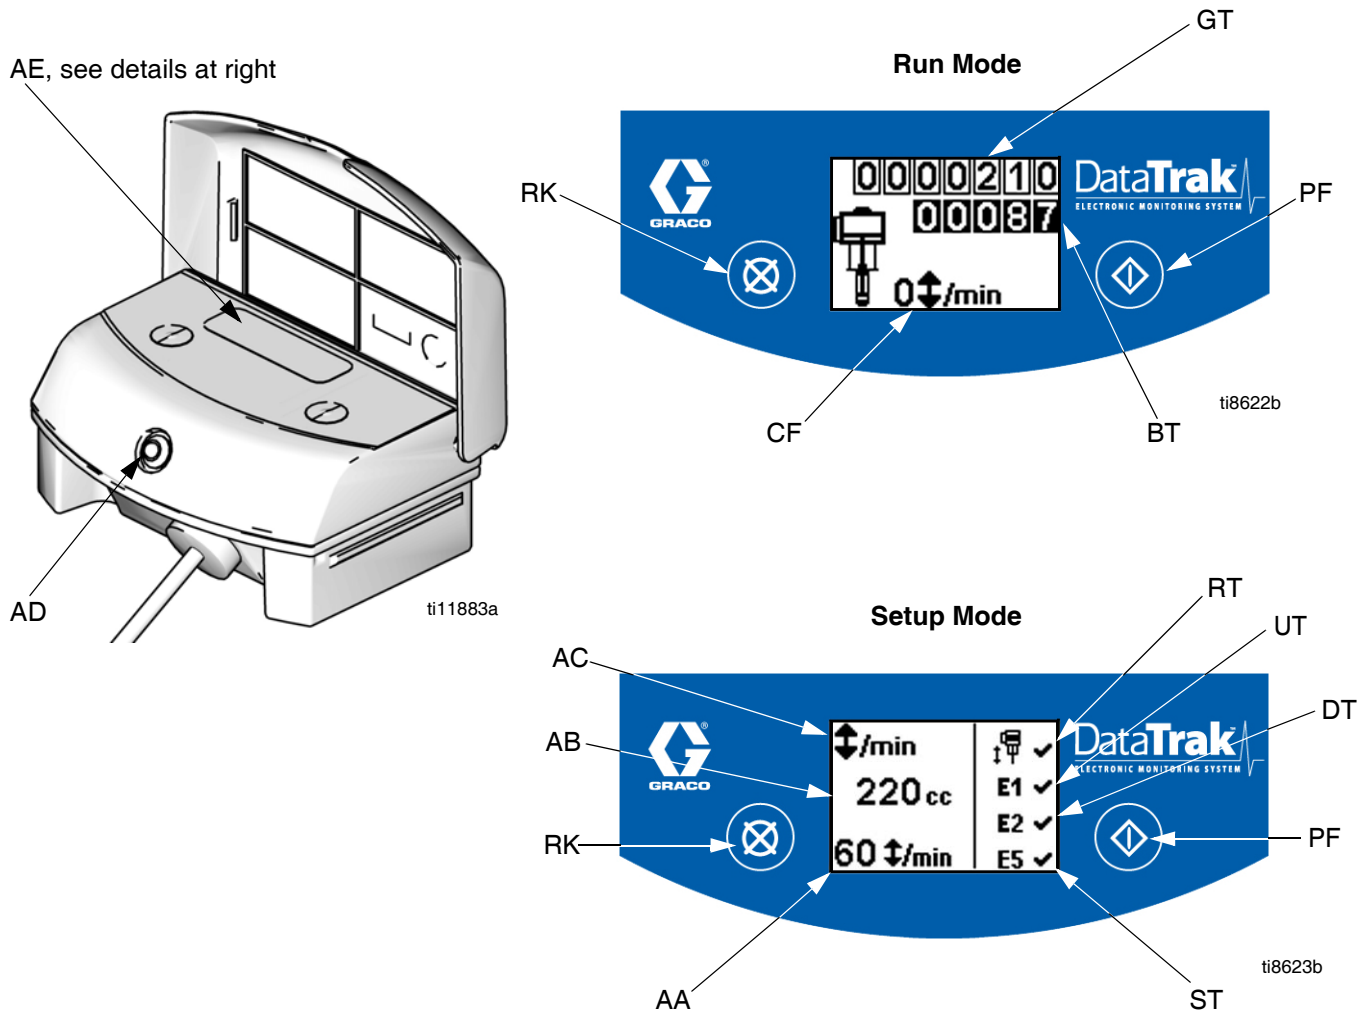

FIG. 8. DataTrak Controls and Indicators
Key for FIG. 8
1. See FIG. 8. Press and hold  for 5 seconds until Setup menu appears.
When runaway, E1, E2, and E5 error options are enabled, a ✓ will appear on the setup screen. See FIG. 8.
1. See FIG. 8. If pump runaway occurs, the runaway solenoid will actuate, stopping the pump. The LED (AD) will flash and the display (AE) will indicate a runaway condition (see Table 1). The display will cycle through six instruction screens.
2. Runaway Screens 1 and 2: To reset the runaway solenoid, close the master air valve (E). Wait for air to completely bleed off the air motor.
3. Runaway Screens 3 and 4: After the air is bled off, push the solenoid release button (J) down to reset the air valve. The button will pop back up when the air valve is repressurized.
5. Open master air valve (E) to restart pump.
To disable runaway monitoring, go to setup mode and set runaway value to 0 (zero) or toggle (RT) off  (see FIG. 8).
1. See FIG. 8. To enter Prime/Flush mode, press any key to wake up the display, then press . The Prime/Flush symbol will appear in the display and
See FIG. 8. The last digit of the batch totalizer (BT) represents tenths of gallons or liters. To reset the totalizer, press any key to wake up the display, then press and hold  for 3 seconds.
See FIG. 8. The display (AE) will turn off after 1 minute of inactivity in Run mode or 3 minutes in Setup mode. Press any key to wake up the display.
DataTrak can diagnose several problems with the pump. When the monitor detects a problem, the LED (AD, FIG. 8) will flash and a diagnostic code will appear on the display. See Table 1.